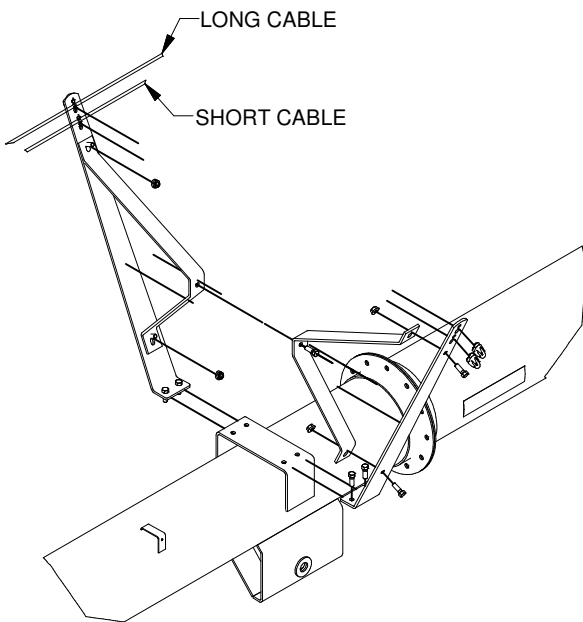

FIGURE 04
6. Fasten **SHORT CABLE** to bottom two holes in **(FIGURE 04)** using 3/8" cable clamp and nuts. Leave loose.